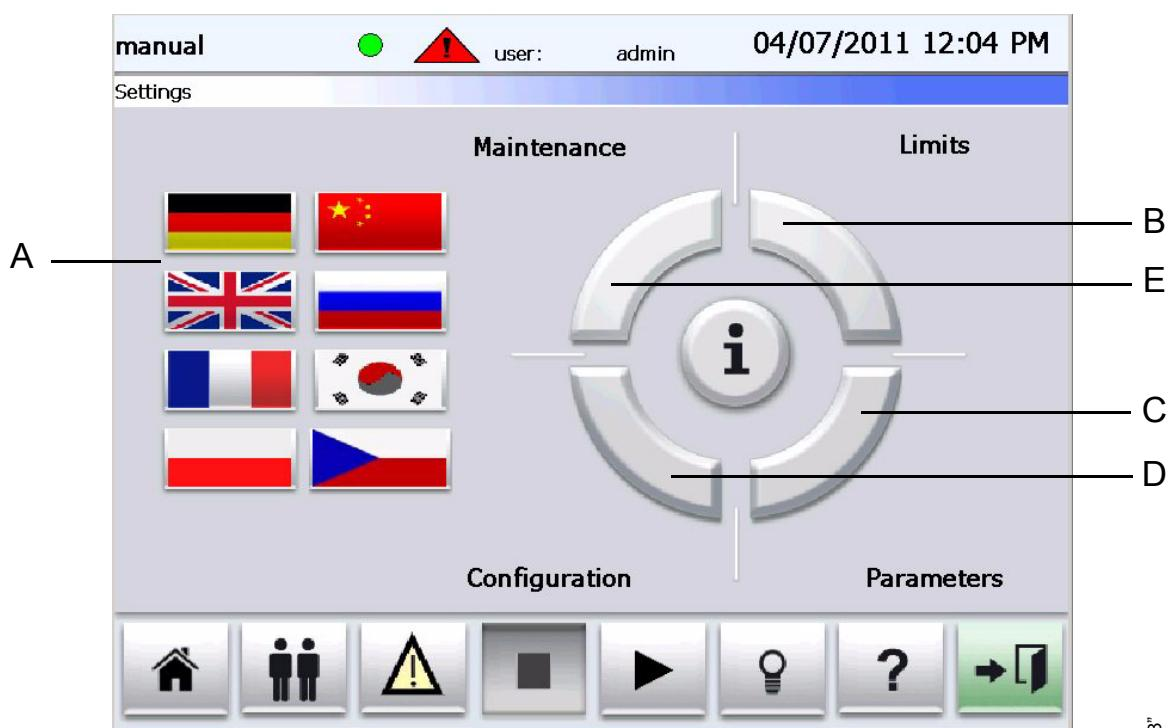

Fig. 3-2
- refer to chapter 3.2, Fig. 3-2 (page 18)
- refer to chapter 3.2 , Fig. 3-2 (page 18)